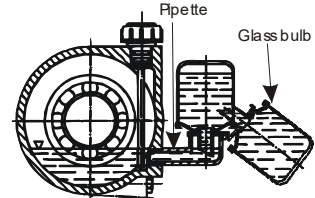

Fig.3: Oiler
- Turn over the glass bulb and pour oil into the pipette until it reaches the level as indicated in the fig. 3: fill the glass bulb and put it into the vertical position. Check that the level of the glass bulb remains constant. The types of oil indicated in tab.1 are valid for temperatures between -10° and 120°C.